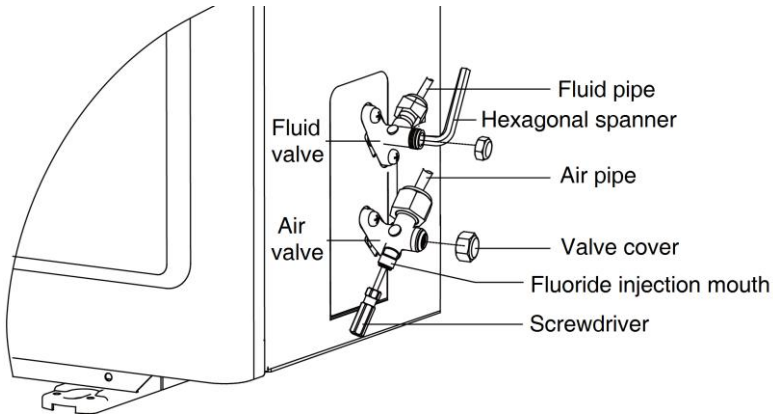

Figure 7-3 Opening the fluid valve and air valve
- 4) Fully open the valve cores of the fluid valve, and the air valve, as shown in Figure 7-3.